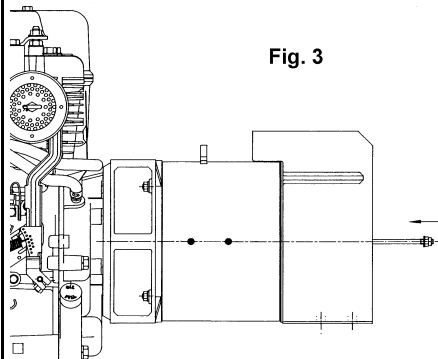

Fig. 3
-) insert the central bolt into its housing and screw the nut (figure 3)